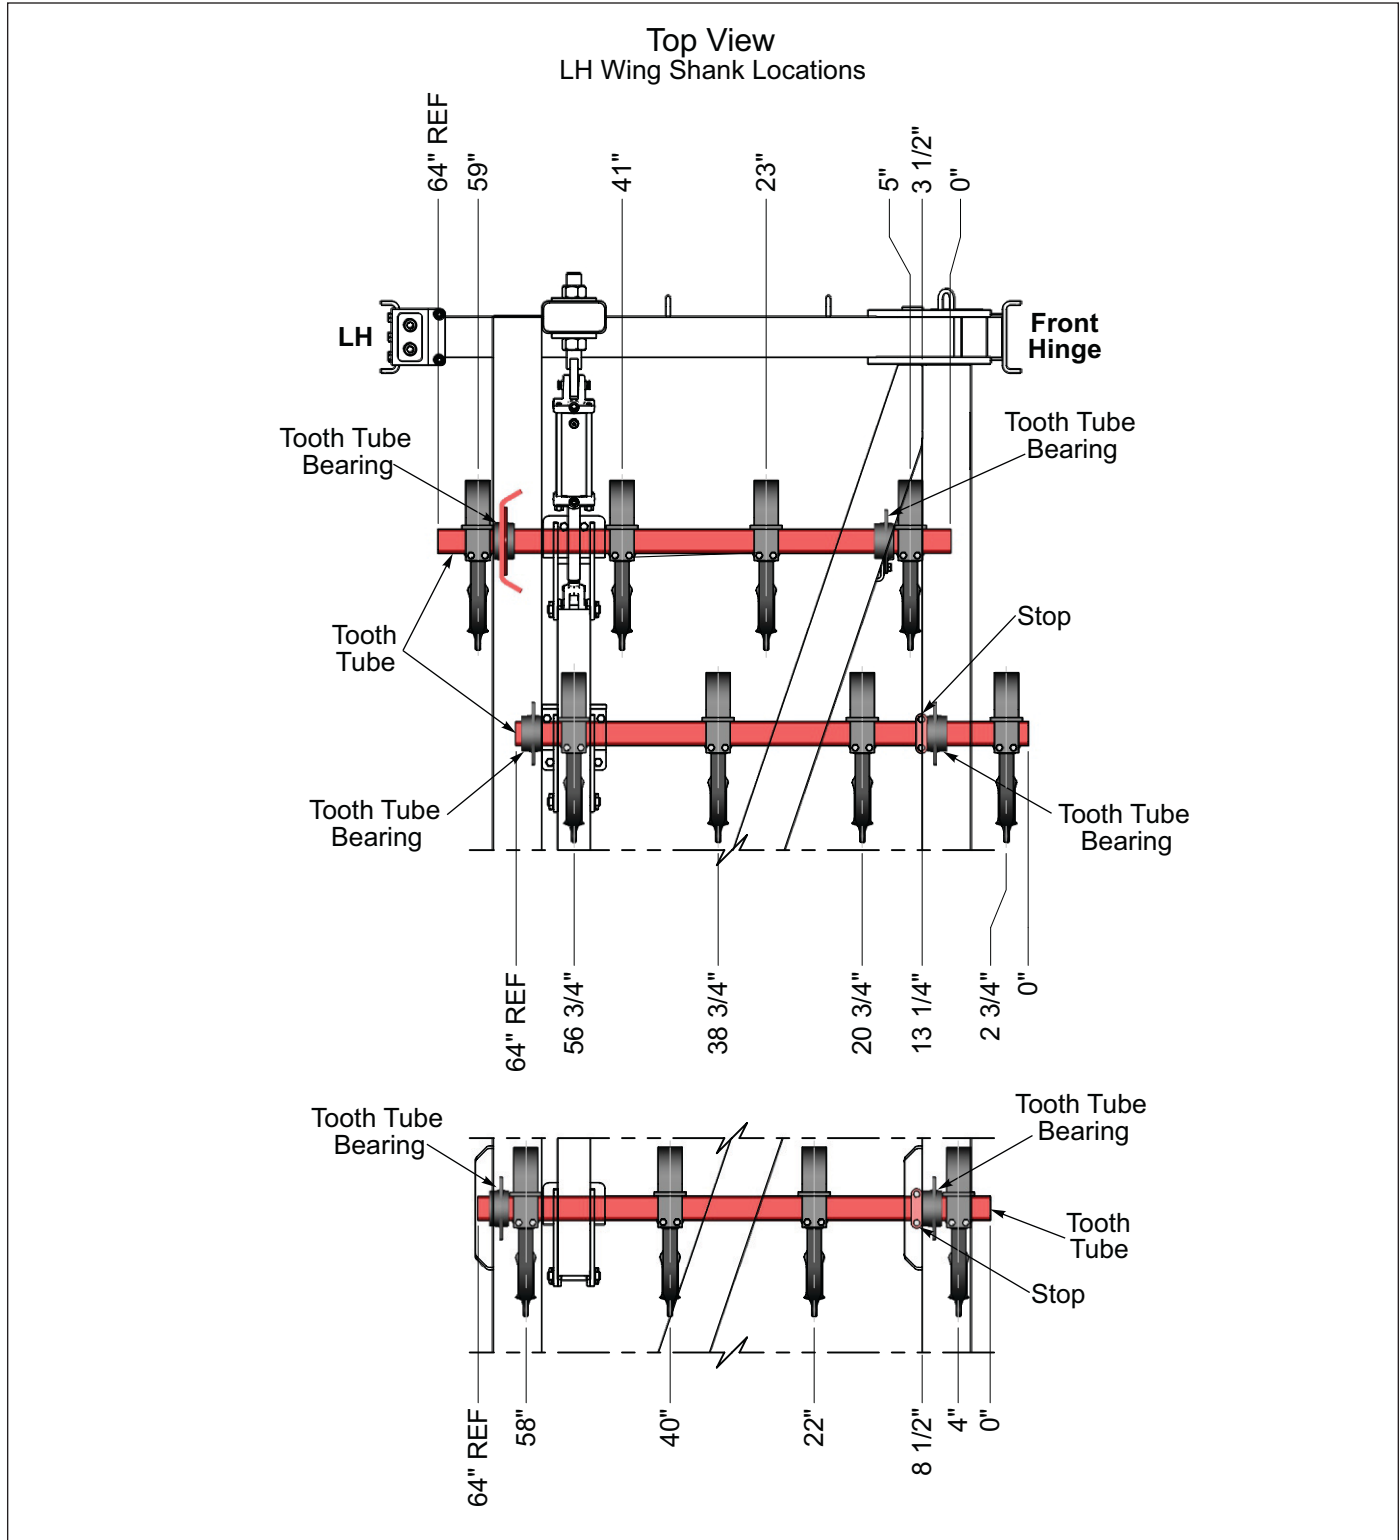

Figure 2-54: Left Hand Wing Shank Mounting Dimensions
1. After marking the tubes for the shank locations, slide the 64" Tooth Tubes into the Tooth Tube Bearings accordingly. See **Figures 2-54 and 2-55**.
3. Mount the Shanks to the Wing Tooth Control Tubes using two 1/2-13 x 5 Bolts and Locknut. **See Figures 2-54 and 2-55** for Left and Right hand Shank Mounting Dimensions.